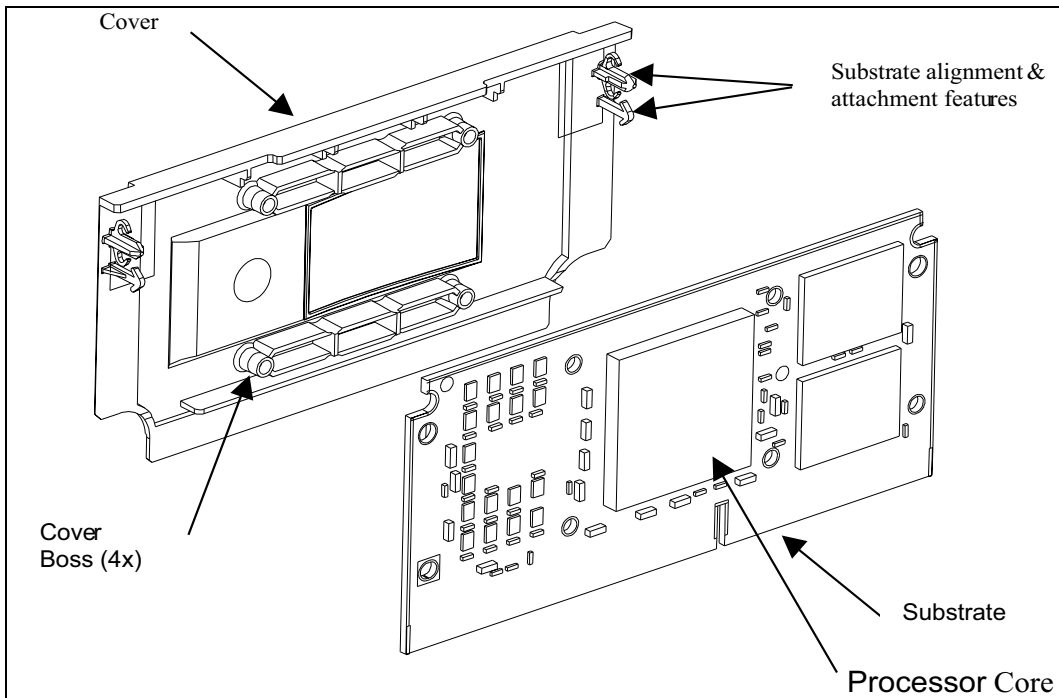

Figure 3. Exploded View of S.E.C.C.2 Package
- Figure 3. Exploded View of S.E.C.C.2 Package10
Figure 3 shows an exploded view of the S.E.C.C.2 package with the processor core, substrate, and cover shown.